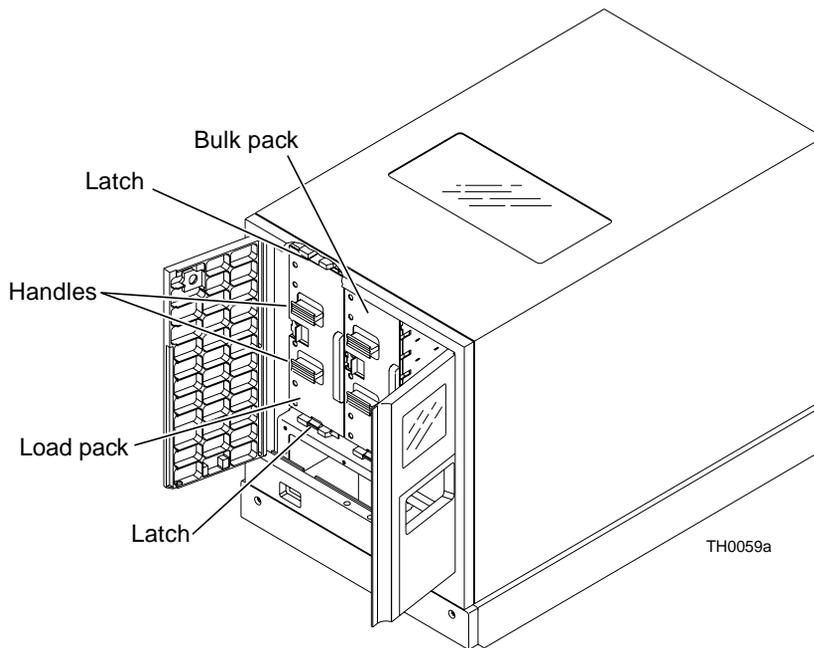

FIGURE 2-13 Removing a Pack
- a. **Press the latch at the top of either pack (FIGURE 2-13).**